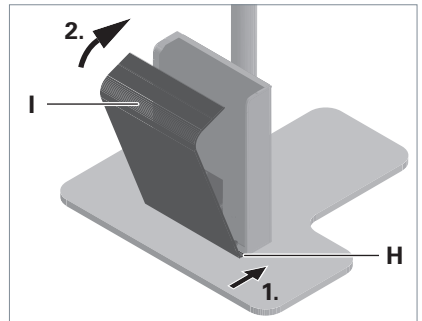

Fig. 5: Mounting the cover.
- ▶ Insert the cover **I** into the openings **H**, see Fig. 5.
- ▶ Flap the cover onto the supply unit, see Fig. 5.